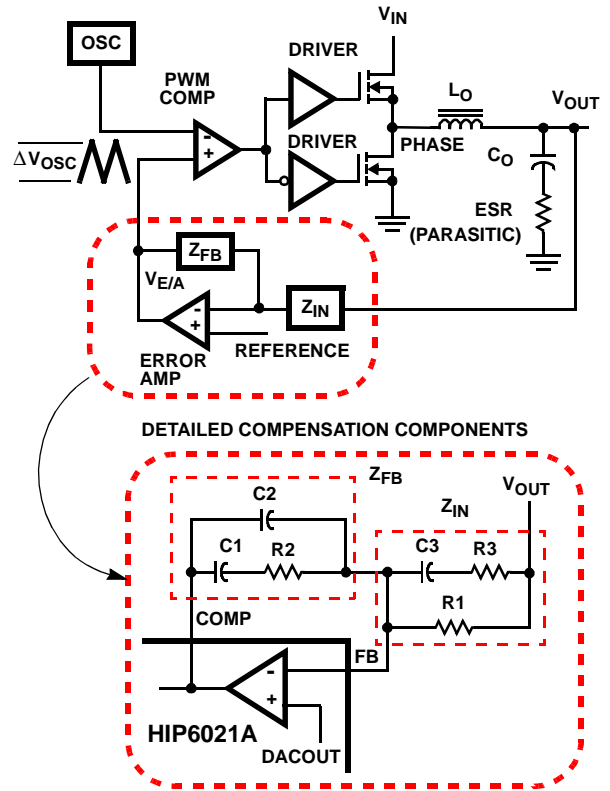
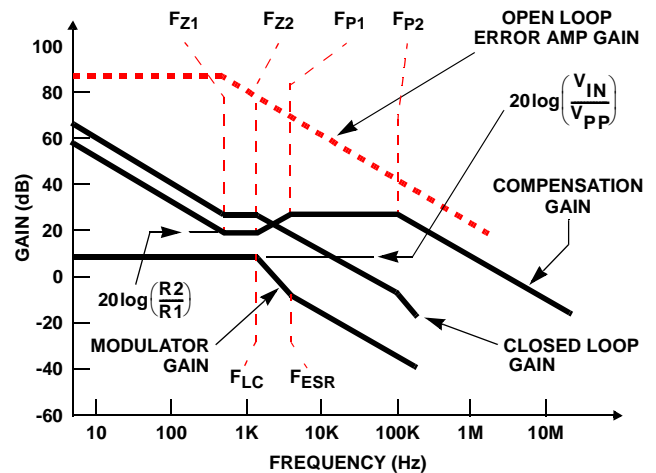

FIGURE 8. VOLTAGE-MODE BUCK CONVERTER COMPENSATION DESIGN
FIGURE 9. ASYMPTOTIC BODE PLOT OF CONVERTER GAIN
Figure 8 highlights the voltage-mode control loop for a synchronous-rectified buck converter. The output voltage ( $V_{OUT}$ ) is regulated to the Reference voltage level. The reference voltage level is the DAC output voltage ( $DAC_{OUT}$ ). The error amplifier (Error Amp) output ( $V_{E/A}$ ) is compared with the oscillator (OSC) triangular wave to provide a pulse-width modulated (PWM) wave with an amplitude of  $V_{IN}$  at the PHASE node. The PWM wave is smoothed by the output filter ( $L_O$  and  $C_O$ ).
Figure 9 shows an asymptotic plot of the DC-DC converter's gain vs frequency. The actual Modulator Gain has a high gain peak dependent on the quality factor (Q) of the output filter, which is not shown in Figure 8. Using the above guidelines should yield a Compensation Gain similar to the curve plotted. The gain. Check the compensation gain at FP2 with the capabilities of the error amplifier. The Closed Loop Gain is constructed on the log-log graph of Figure 9 by adding the Modulator Gain (in dB) to the Compensation Gain (in dB). This is equivalent to multiplying the modulator transfer function to the compensation transfer function and plotting the gain.